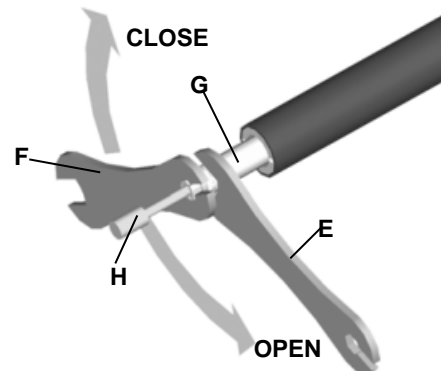

Fig. 4: Changing the tool
When changing the grinding tool using the wrenches with the scope of delivery (E and F), hold the spindle (G) and open or close the collet (H) (right-hand thread) (see Fig. 4:).